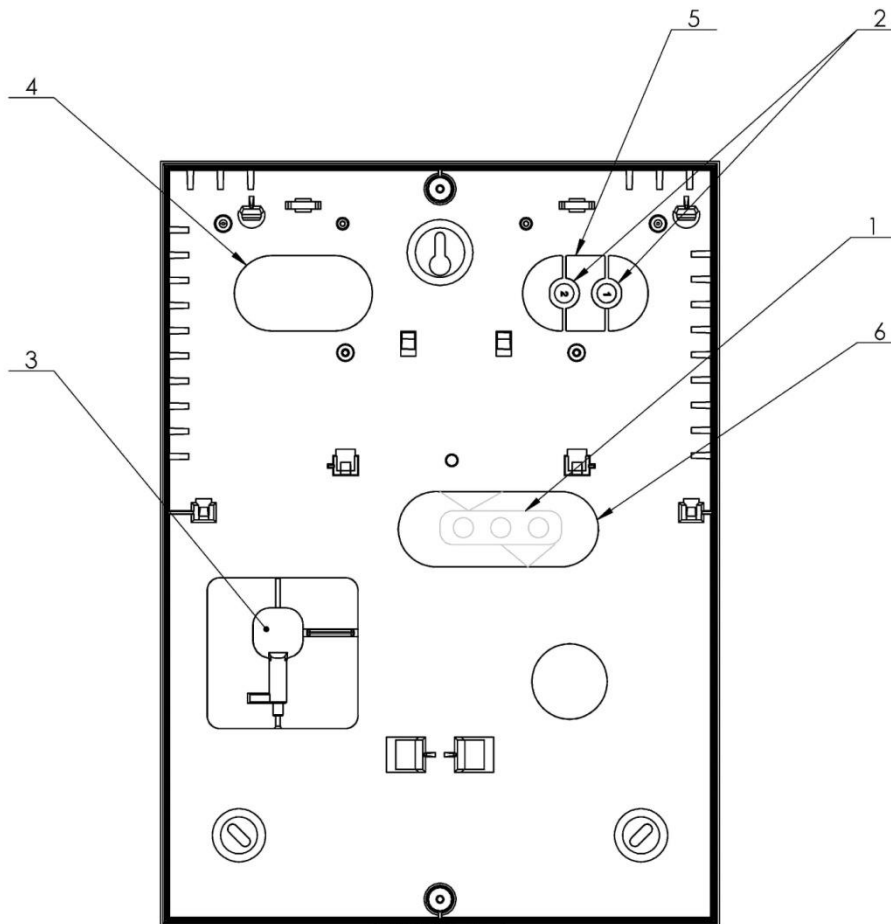

Fig.5
- Cut the access level key out from the bottom side of the cabinet (fig.5, pos.3);
- Cut the plastic plugs out from the bottom side of the cabinet (fig.5, pos.2);
- Take care to fully clean the opening on fig.5, pos.5;
- Do not remove the plastic component (fig.5, pos.1);
- The openings (fig.5, pos.6) and (fig.5, pos.5) are dedicated to the signal lines (conventional zones and alarm and protection equipment);
- The opening in the top left corner is only dedicated to the 220/230VAC mains power line (fig.5, pos.4), applicable for the FS4000 mains power supply;